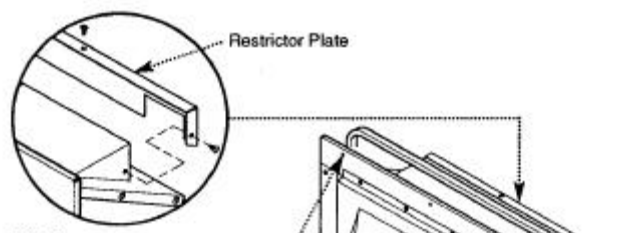

Fig. 12
2. Remove the restrictor plate from the fire before fitting to this type of flue (see Fig. 12).
1. **If the fire is to be fitted in a flue box or in a 5 inch lined flue, remove the restrictor plate from the rear of the appliance** (Fig. 12).